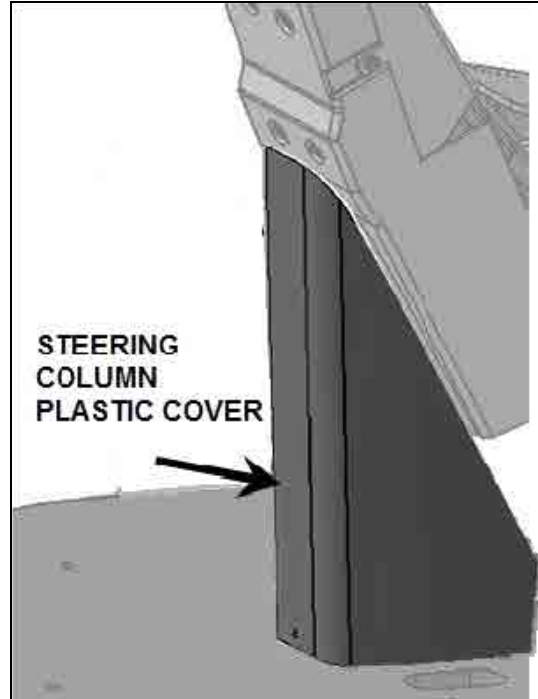

FIGURE 1
- 1) In the driver's section, locate the steering column plastic cover at the bottom of the steering column (figure 1).